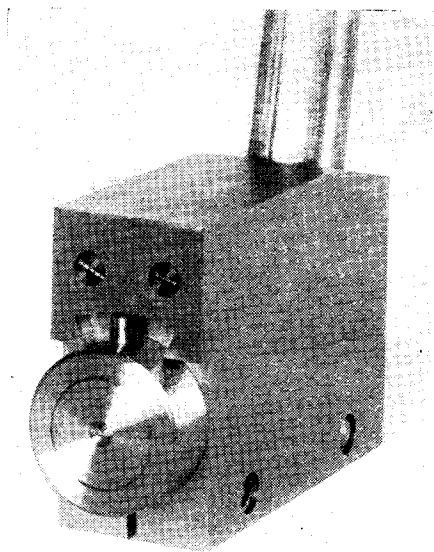

Fig. 22. Showing the position of the stop-plate and collar
At the lower end of the spindle, the thrust collar (I) forms part of the stop mechanism for limiting the rotation of the spindle in the pivot bracket (D). As shown in the photograph, Fig. 22, a stop-plate (K) is secured to the under side of the bracket and is cut away to allow the pivot to rotate through an angle of 45 deg. under the control of the stop-pin fitted to the adjustable collar (I).